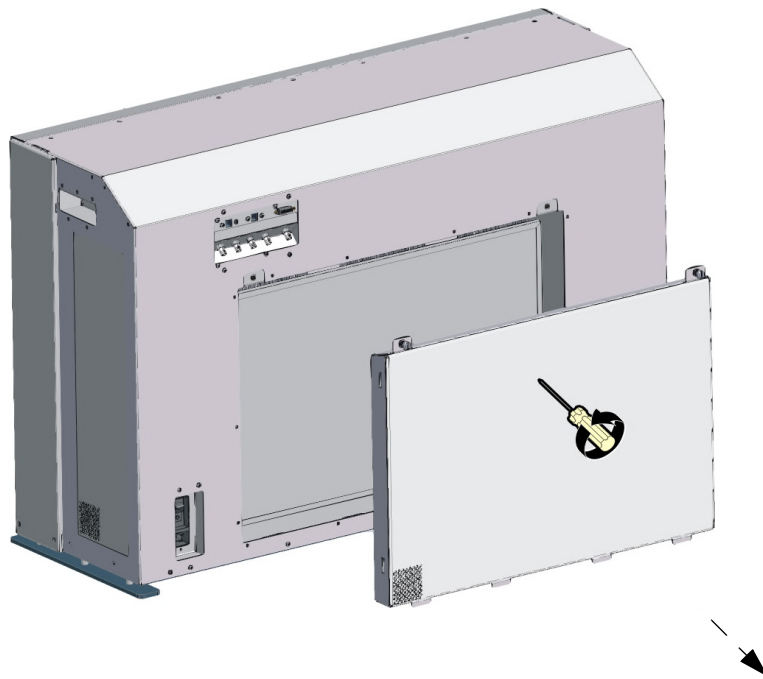

Figure A-1 Remove Filter Door
3. Using both hands, pull the filter door out of the rear panel, as shown in Figure A-1.